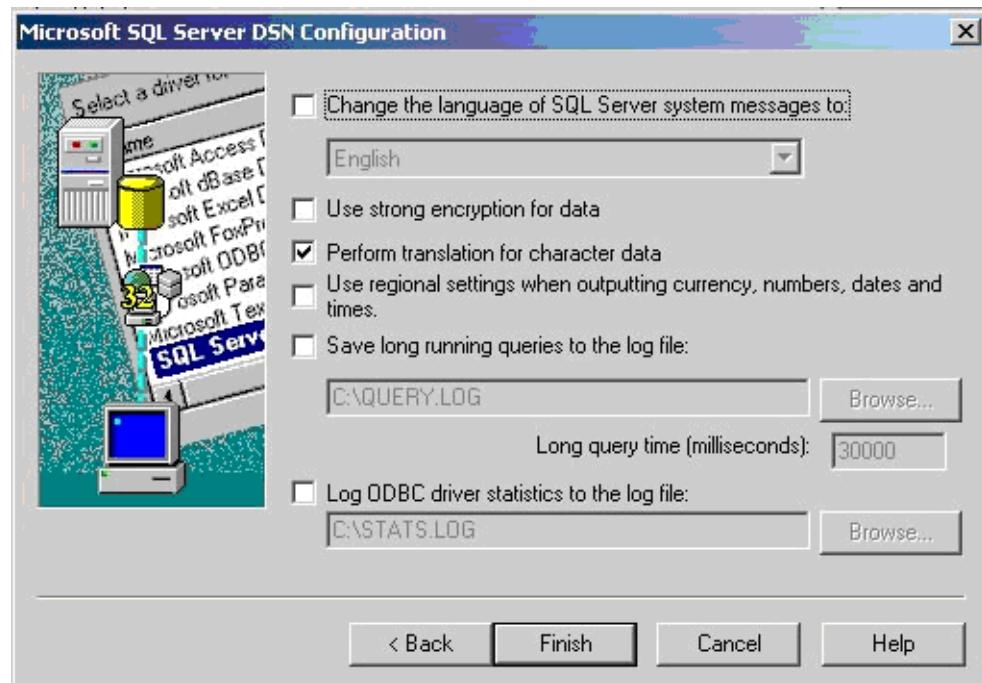

Figure 40: Selecting the Perform translation for character
13. Select the **Perform translation for character data** check box, see Figure 40.